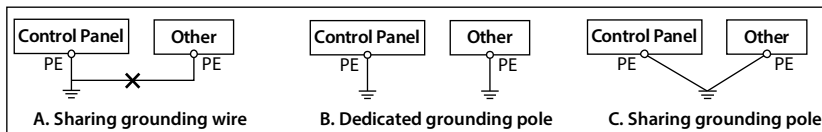

Figure 4-1 Grounding method
Do not share the grounding wire with other devices (A). COOL100 can share grounding pole with other devices (C). It achieves the best effect if COOL100 and other devices use dedicated grounding poles (B), as shown in Figure 4-1.